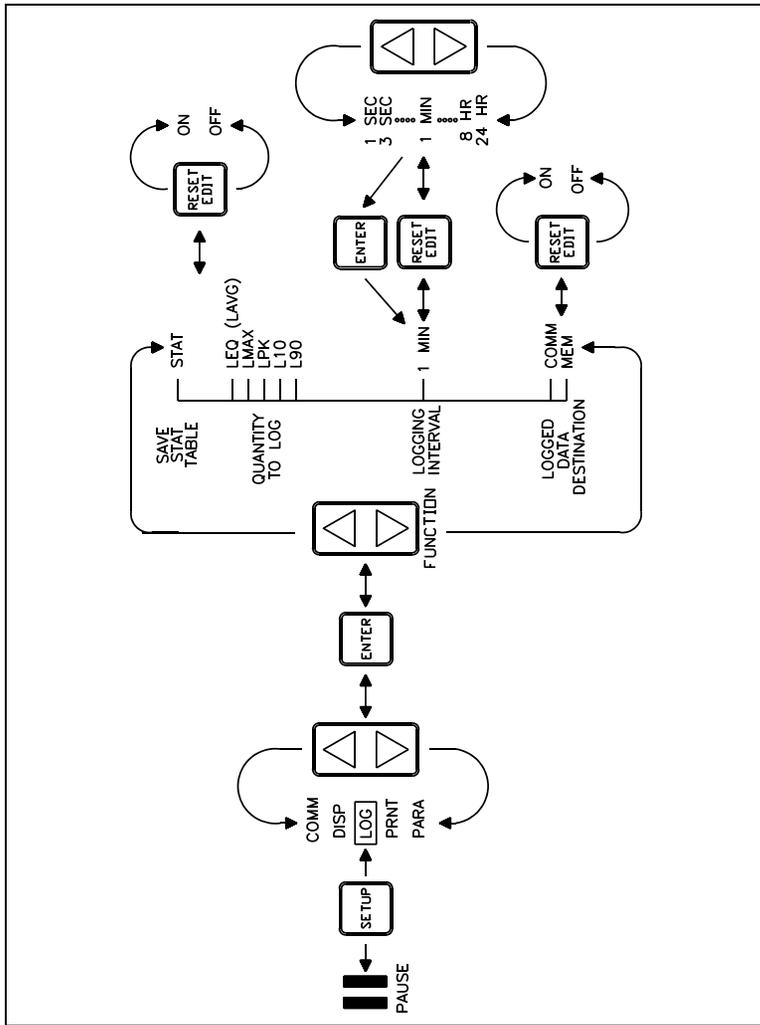

Figure 9. Log Setup Menu
**LOG Setup Menu** (Data to be logged) Refer to Figure 9